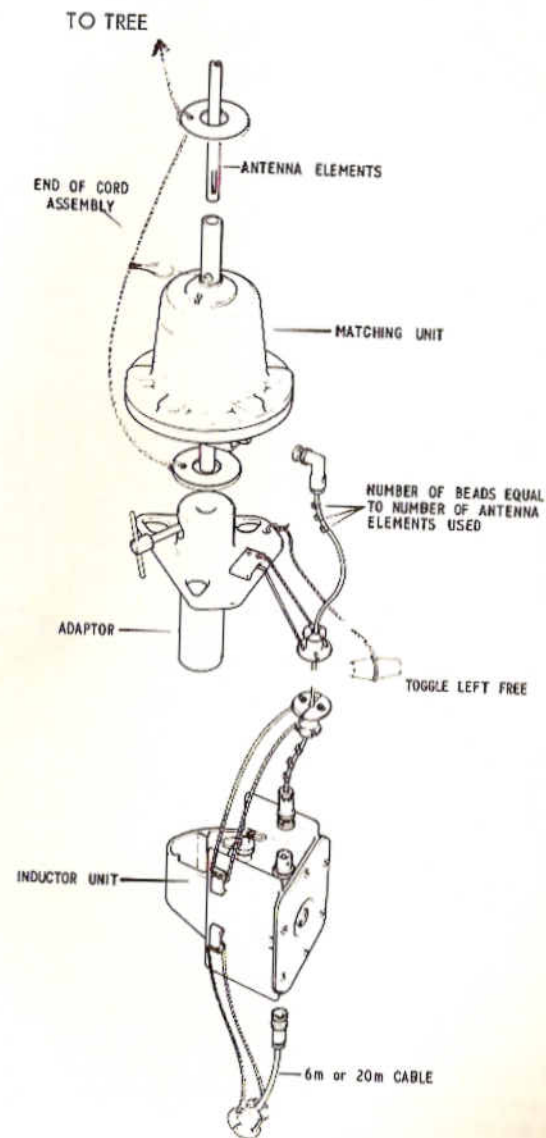

Fig 25b Assembly for Overhead Suspension
9. Proceed as follows (Fig.25b), removing each item from the relevant carrying case only when the item is required: